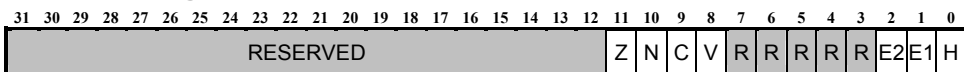

Figure 3.10 STATUS32 Register
The status register contains the status flags. The status register (STATUS32), shown in Figure 3.10, contains the following status flags: zero (Z), negative (N), carry (C) and overflow (V); the interrupt mask bits (E[2:1]); and the halt bit (H).